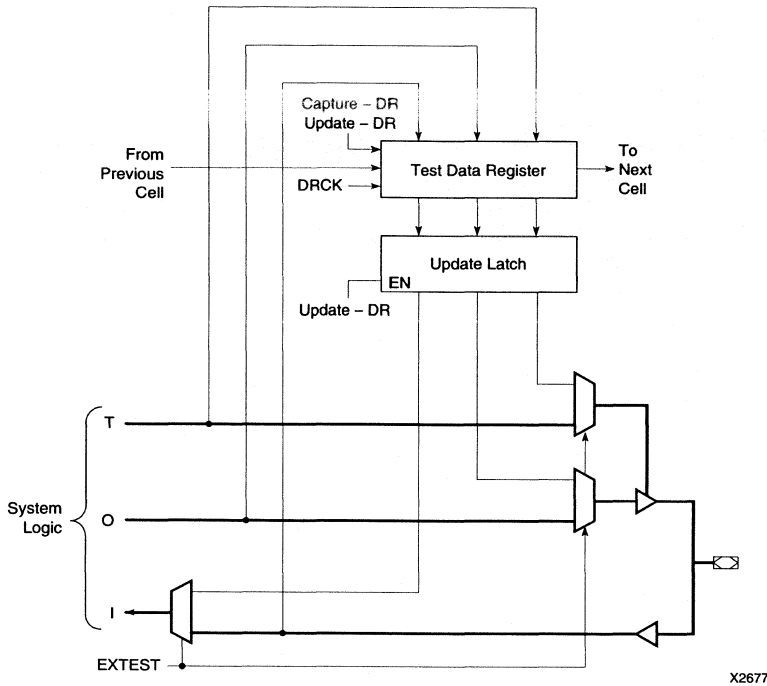

Figure 7. EXTEST Data Flow
**EXTEST** – While the EXTEST instruction is present in the IR, the data presented to the device output buffers is replaced by data previously loaded through the boundary-scan DR and stored in the update latch, Figure 7. Similarly, the output 3-state controls are replaced, and the data passed to internal system logic from input pins is replaced.